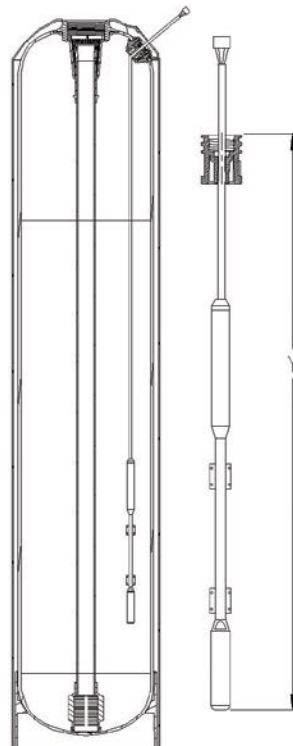

Figure 2. HE Softener tank.
3. Install the outlet manifold into the tank (Figure 2).
1. Measure the sensor cable length as shown in dimension Y (see Figure 2) and Table 1 (the Aqua-Sensor cord is set at the factory for a 9" tank).